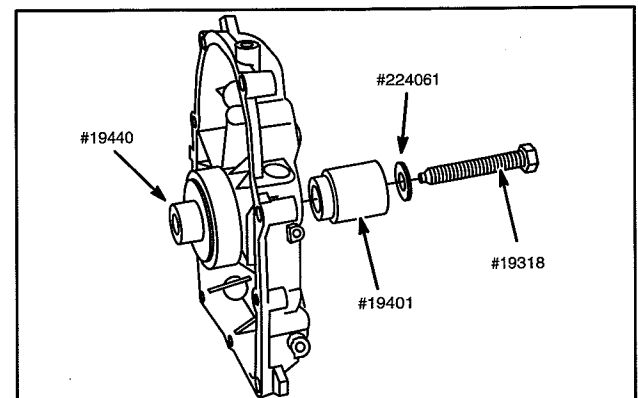

Fig. 17 – Remove Ball Bearing
- a. Continue tightening screw until ball bearing is removed, Fig. 17.